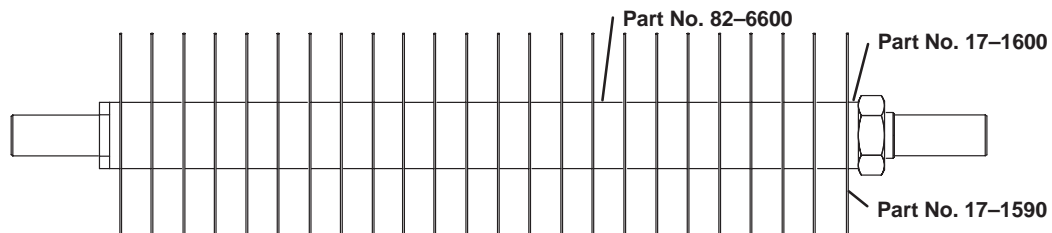

Figure 16
3/4" Spacing, (Standard) – Includes (24) Blades (part no.17-1590) (2) 1/4" Thick Spacers (part no.17-1600) (23) 3/4" Thick Spacers (82-6600) (Fig. 16).